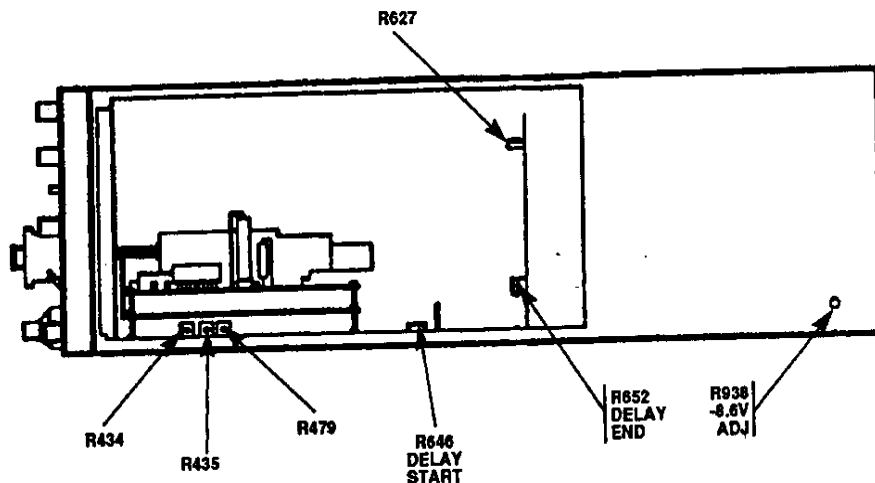

Figure 2. Adjustment locations - right side view.
- (29) Position controls as listed in (a) through (d) below:
- (30) Set oscilloscope calibrator **MARKER** output for **.1 mS/D**.
- (31) Adjust **A/B SWP SEP** control to separate A and B sweeps.
- (32) Adjust R646 DELAY START (fig. 2) so that the 2nd A sweep time marker is intensified and the B sweep time marker's rising edge starts at the beginning of B sweep (R).
- (33) Adjust **B DELAY TIME POSITION** dial to **9.00**.
- (34) Adjust R652 DELAY END (fig. 2) so that the 10th A sweep time marker is intensified and the B sweep time marker's rising edge starts at the beginning of B sweep.
- (35) Adjust **B DELAY TIME POSITION** dial to **1.00**.
- (36) Repeat (32) through (35) above until no further improvement is noted.
- (37) Set **HORIZONTAL MODE** switch to **B**.